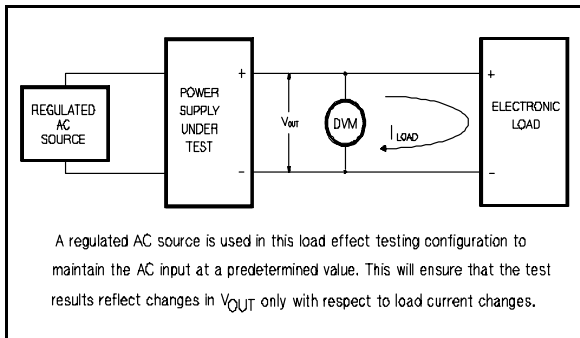

Figure A-7. Basic Test Setup
- Connect the test equipment across the output of the V1 supply as shown in Figure A-7. Operate the electronic load in constant current mode and set its current to 1.000 A.
- a. Connect the test equipment across the output of the V1 supply as shown in Figure A-7, but replace the DVM with the oscilloscope. Operate the electronic load in constant current mode.
- a. Connect the test equipment across the output of the V1 supply as shown in Figure A-7.